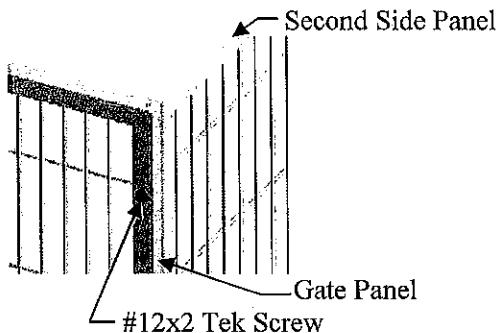

Figure 7
3. Attach the Second Side Panel to the Gate Panel using 2" Self-Drilling Tek Screws through the pre-drilled holes (Figure 7).